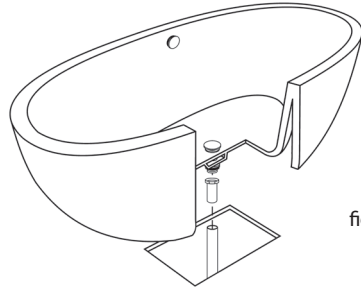

figure 7
- Carefully** set tub into position (figure 7) and connect the drain hardware (previously installed).